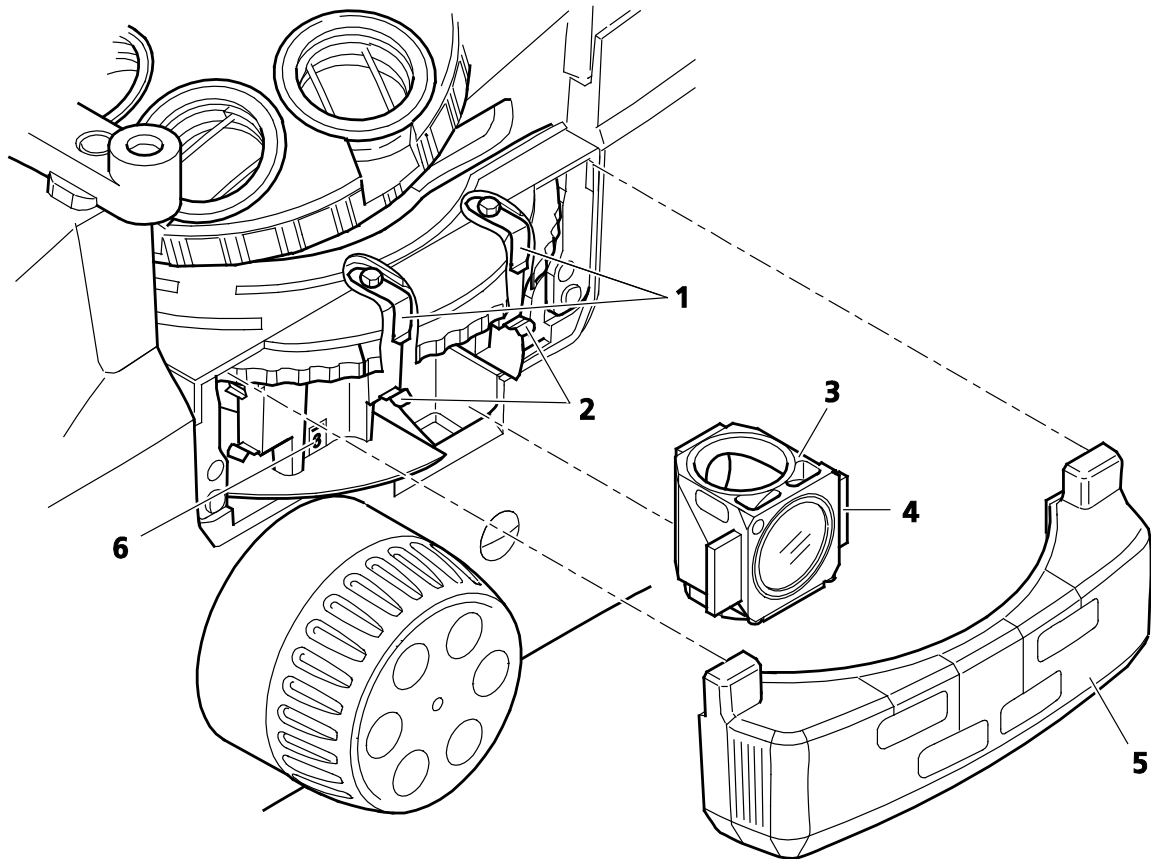

Fig. 3-12 Equipping the Reflector Turret
- Pull the protective cover (Fig. 3-12/5) off to the right.
- In the desired order, insert reflector modules, fitted with filter sets (Fig. 3-12/3), into the relevant reflector turret position (see position marking in Fig. 3-12/6), starting at position 1 (emission filter in bottom position). For this purpose, first insert the reflector module in an inclined position from below, with the locating elements (Fig. 3-12/4) on the right-hand and left-hand sides, into the two upper clamping springs (Fig. 3-12/1). Then press the module against the lower clamping springs (Fig. 3-12/2) from the front until the module is safely locked in place.